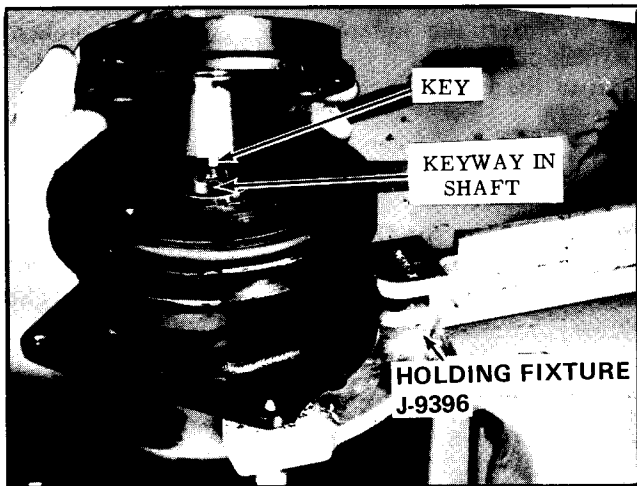

Figure 46—Aligning Drive Plate Key
2. Line up the key in the hub with keyway in the shaft (figure 46).